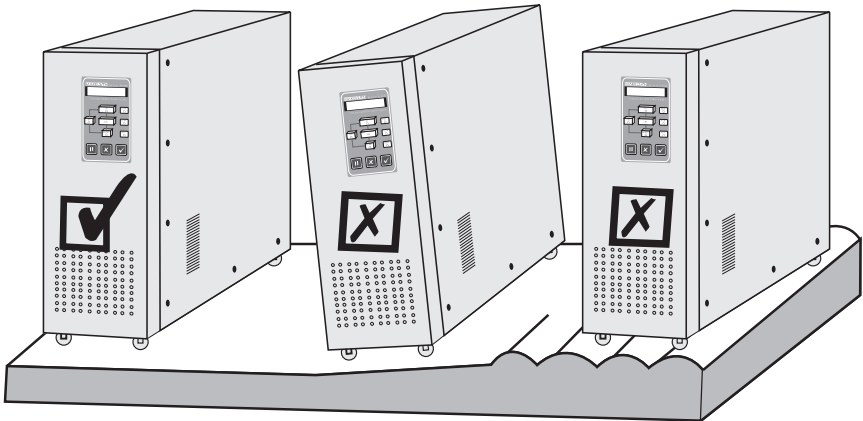

Figure 4, choice of placement position
1. Do not place the UPS on the slope or scraggy land. (Figure 4)
2. Verify the installation position again. (Figure 4 to 10)